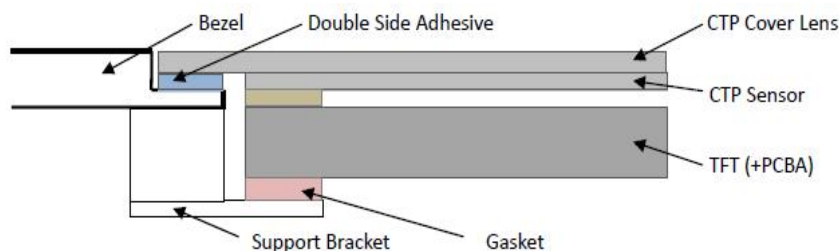

Figure 2
Active area is divided into 9 measuring areas (Refer Fig. 2). Every measuring point is placed at the center of each measuring area.
8.1 Surface Mounting (Figure 2)
8.1 嵌入安装（附图 2）